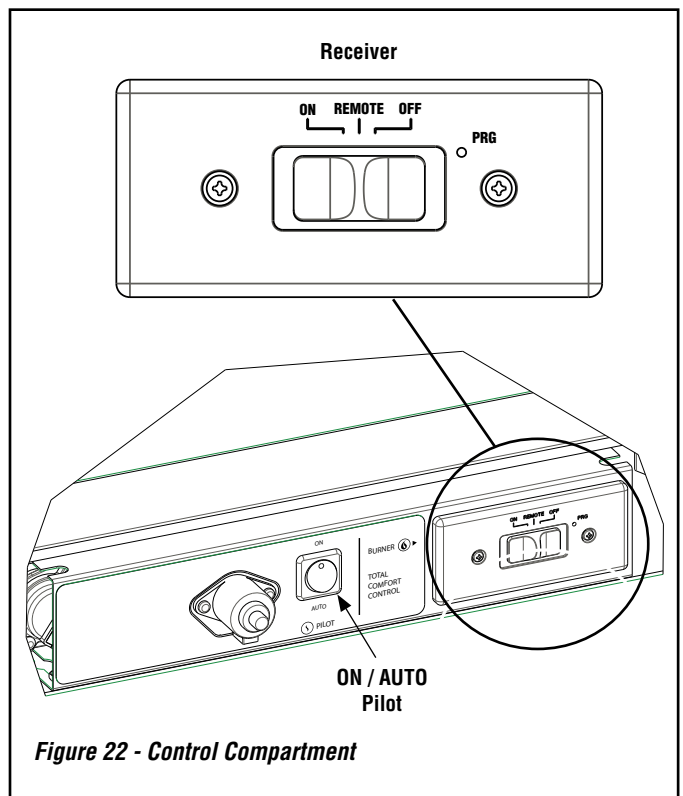

Figure 22 - Control Compartment
Place the 3 position slider switch in the "Remote" position (see *Figure 22*). Using the end of a paper clip, or other similar object, insert the end of the paper clip into the hole marked "PRG" on the Receiver front cover. The Receiver will "beep" three (3) times to indicate that it is ready to synchronize with the Remote (transmitter).
NOTE: The blower can be controlled only by the remote. Turning the appliance off with the unit mounted three position slider switch (**Figure 22**) will **NOT** turn off the blower. To turn off the blower, use the remote in lieu of or prior to shutting the appliance off at the three position slider switch (**Figure 22**).